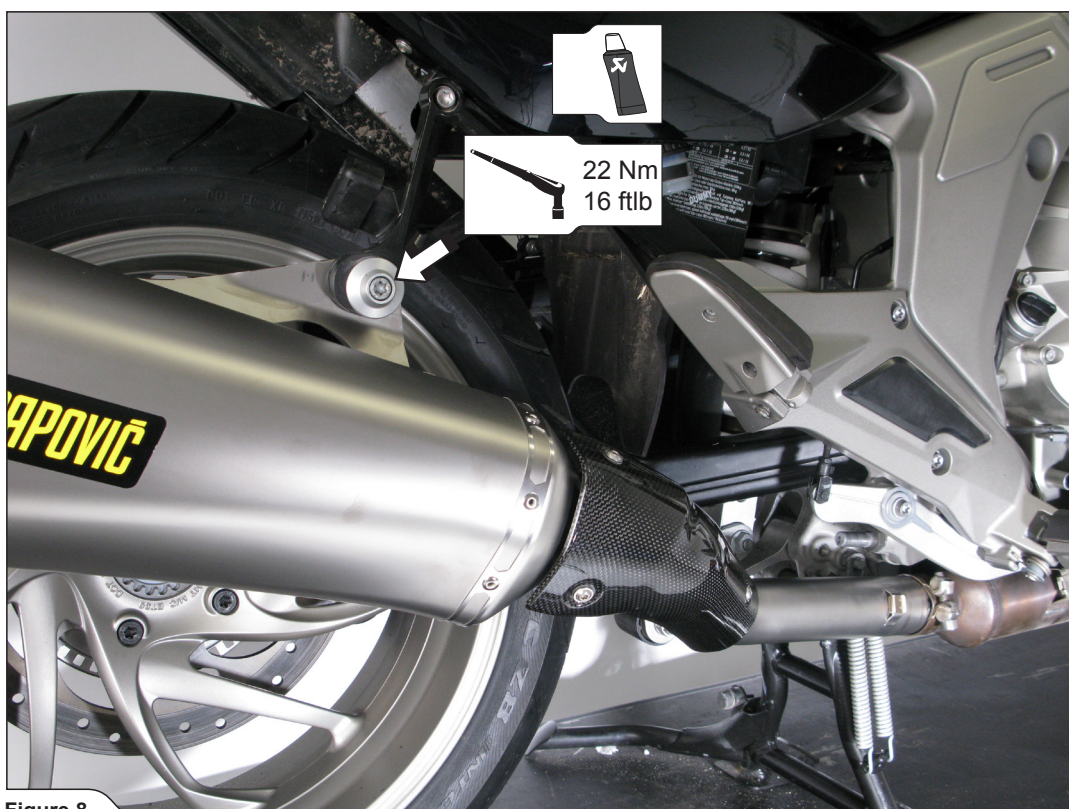

Figure 8
2. Slide the right muffler all the way onto the outlet side of the stock collector and tighten the muffler bracket to the specified torque, using original washer and bolt (Figure 8).